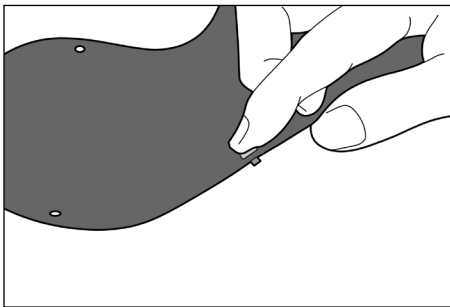

Fig. 11
1. Place (1) M3 PHS through the hole with the head of the screw on the inside surface. Hold the head of the screw in place with the pad of your finger. (Fig. 11).